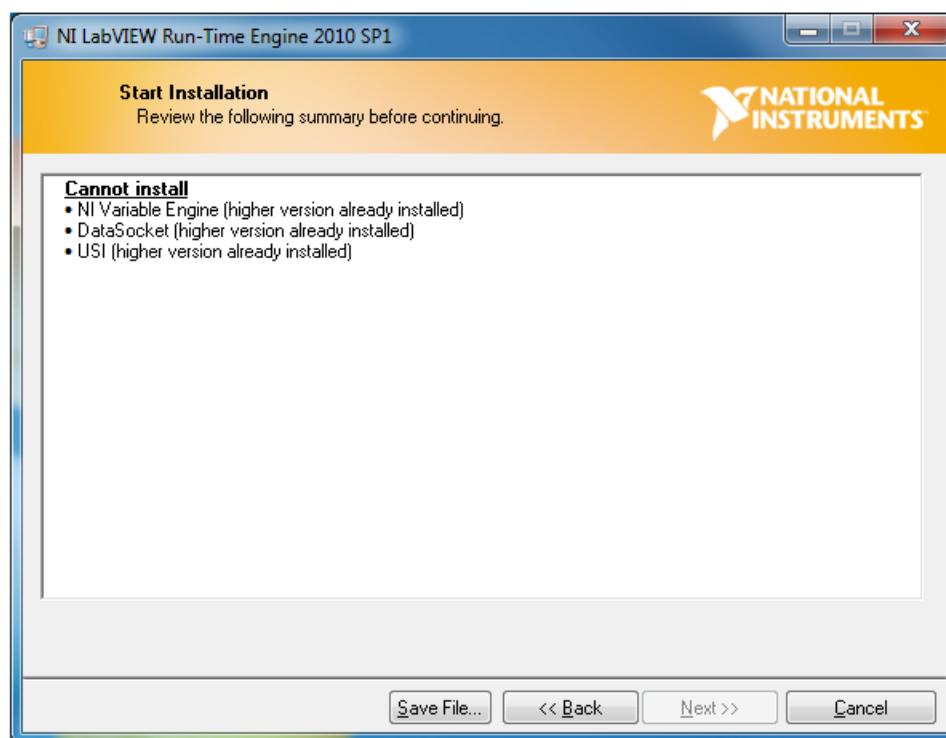

Figure 45. HMC-DAQ GUI Install (LabVIEW Run-time Engine Installation)
12. The run-time engine installs unless it has already been detected as should be the case if the HSDCPro GUI was already installed. In this case, the following message appears. Press the *Cancel* button, as in Figure 45.